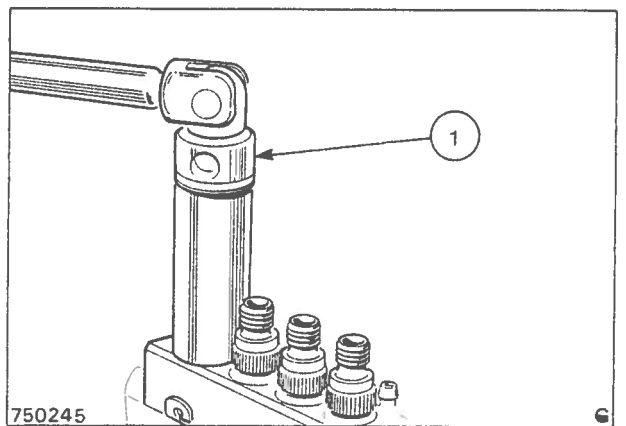

Fig. 29 Unscrewing the delivery valve holder
1. Unscrew the delivery valve holder using the special socket (Fig. 29) on No. 1 element and remove the valve, spring and volume reducer. Fit a plunger head clearance gauge and tighten to a torque of 40,7 to 47,5 Nm (30 to 35 lbf ft or 4.2 to 4,8 kgf m). Locate the spindle in the tool and fit the camshaft